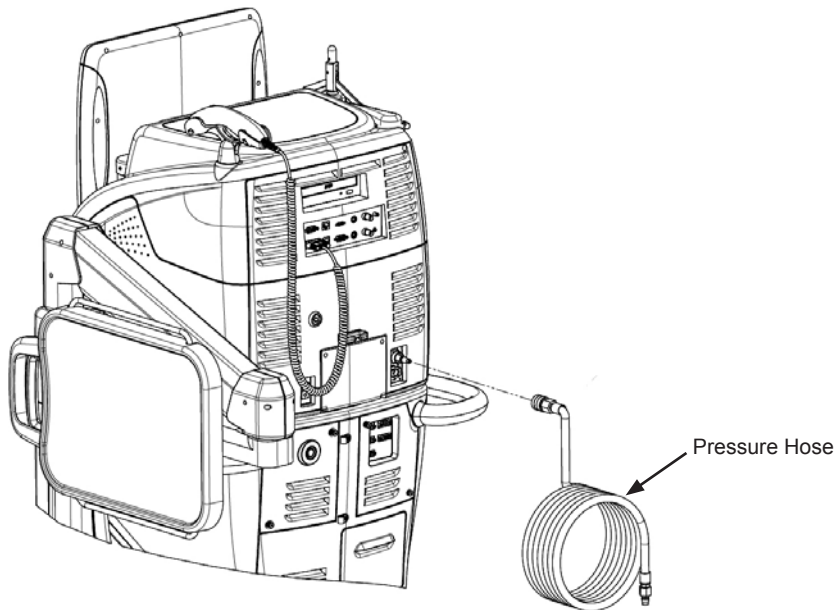

Figure 7-13. Pressure Hose Installation
32. Using the supplied pressure hose, connect the system to the preferred facility pressure source (see Figure 7-13). Additional fittings are supplied if required. Refer to the Maintenance section of this manual for instructions on changing the fittings.